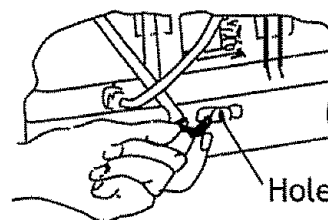

FIG. 8
5. Attach lower plastic hose to rear of unit by inserting the fitting on the end of hose into the hole located midway at rear of unit (Fig. 8).